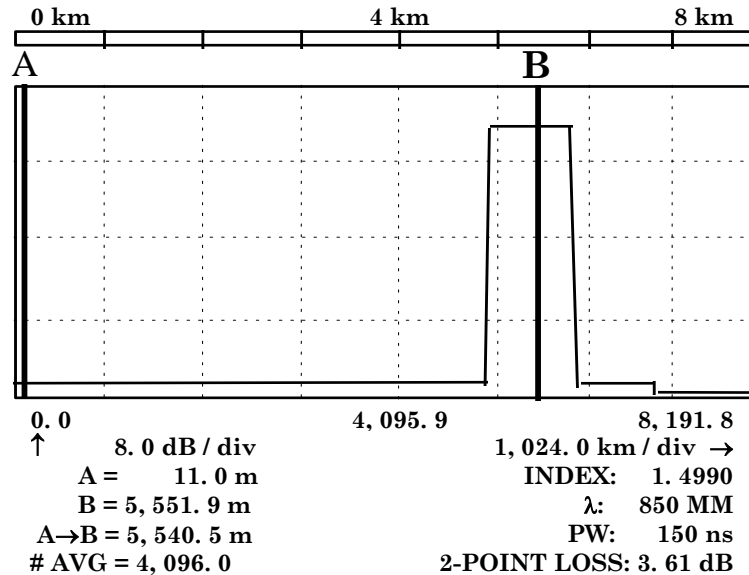

Figure 12. Example of cursor B placement in center flat portion on FOCUS generated pulse (TD-260C).
(19) Press **HOR CONT** pushbutton for maximum horizontal contraction.
(20) Press **DISPLAY FROM** pushbutton to select **B**.
(21) Adjust **CURSOR B** control to place cursor B in approximate middle of flat portion on top of FOCUS generated pulse (fig. 12). Record **B=** distance indicated on TI display on TD-260C (850 nm) Reference Cursor Position Data Sheet (appendix A).